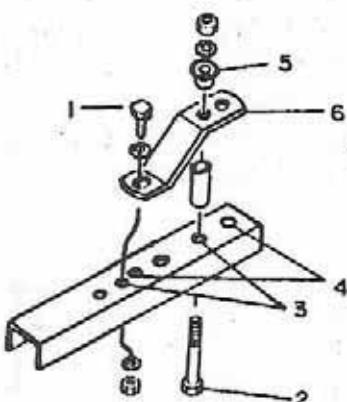

FIGURE 4
- e) **Garden Tractor:** Loosen the bolts (fig. 4, item 1 & 2). Be sure they are installed in the first set of holes (item 4) with the flange sleeve (item 5), the flange face up.
Lawn Tractor: Remove the hitch plate (fig. 4, item 6) and re-install loosely in the second set of holes (item 3) with the flange sleeve (item 5), the flange face down.
- c) Attach the rear portion of the subframe (fig. 4) to tractor tow hitch with the flange sleeve under the tow hitch, using bolts already installed with a flatwasher, a lockwasher and a nut on top of tractor tow hitch. Tighten securely.